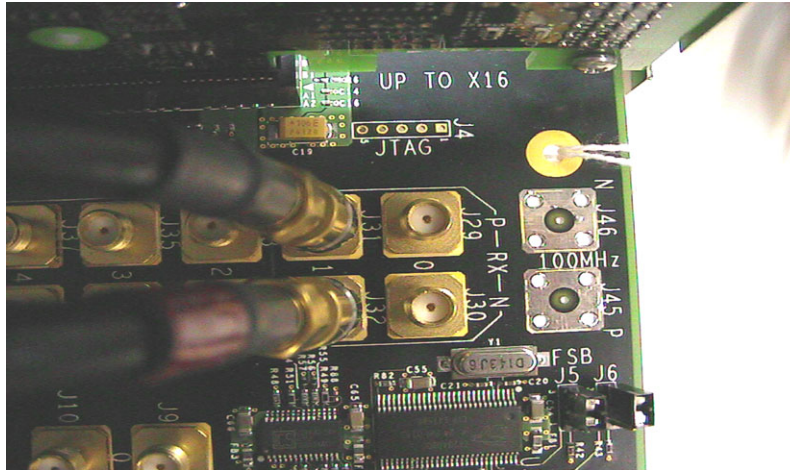

Figure 67 Compliance Base Board (CBB) SMA Probing Option
- a Digital Storage Oscilloscope channel 1 to the TX LANE P under test (where Lane 1 is under test in this example shown in Figure 67 above).
- b Digital Storage Oscilloscope channel 3 to the TX LANE N under test (where Lane 1 is under test in this example shown in Figure 67 above).